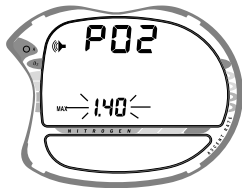

Fig. 35 - Set Max PO2 Alarm
- The graphics **PO2** and **MAX**, and Alarm icon appear with the **PO2 value** flashing (Fig. 35).